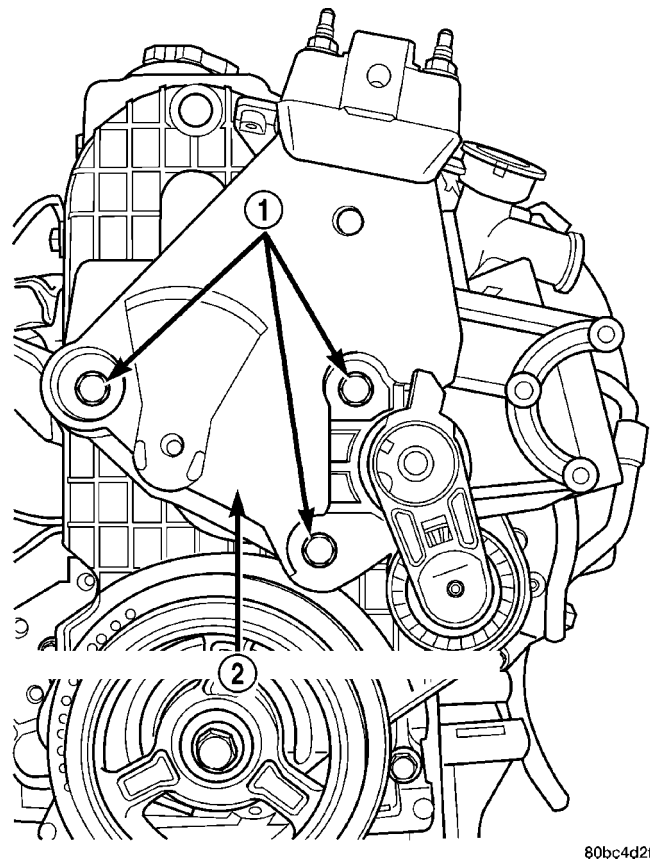

Fig. 98 Engine Mount Bracket Assembly
(12) Lower engine enough with jack to remove lower engine mount bracket bolt (Fig. 98).
(13) Raise engine with jack to allow engine-to-body clearance for engine mount bracket removal.
(14) Remove fasteners securing power steering pump to engine mount bracket. **Do Not** disconnect lines from pump.
(15) Remove the two remaining bolts securing engine mount bracket to engine. Remove engine mount bracket (Fig. 98).
(1) Position engine mount bracket to its mounting location. Hand start the upper two bolts of the engine mount bracket (Fig. 98).
(2) Lower engine with jack.
(3) Install lower engine mount bracket bolt. Tighten bolt to 61 N·m (45 ft. lbs.) (Fig. 98).
(4) Raise engine with jack.
(5) Tighten upper engine mount bracket bolts to 61 N·m (45 ft. lbs.) (Fig. 98).
(6) Install power steering pump fasteners.
(7) Lower engine with jack.